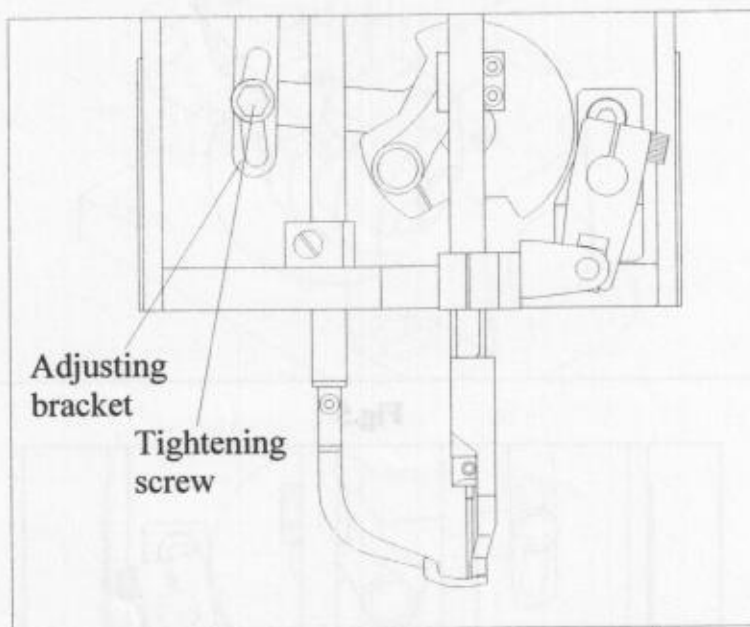

Fig.7
4.5 The foot bars advance step adjustment (Fig.7)